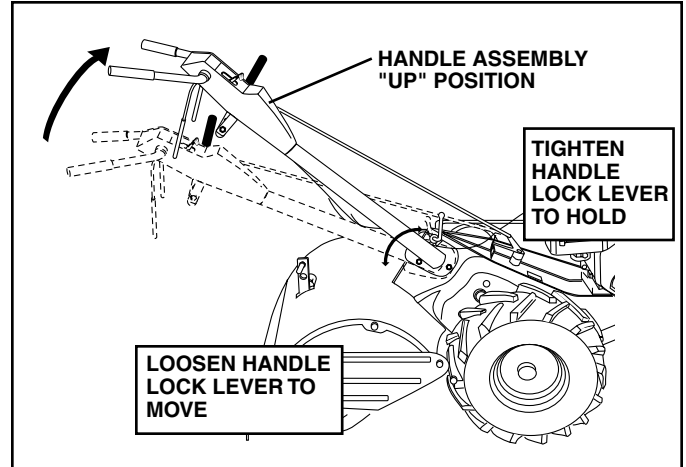

FIG. 4
- Rotate handle assembly down. Insert rear carriage bolt first, with bolt head on L.H. side of tiller and loosely assemble locknut (See Fig. 4).